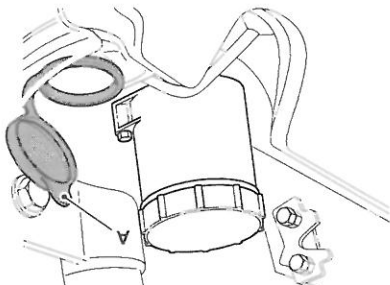

Figure 361.
4. Remove the washer bottle filler cap. Refer to Figure 361.